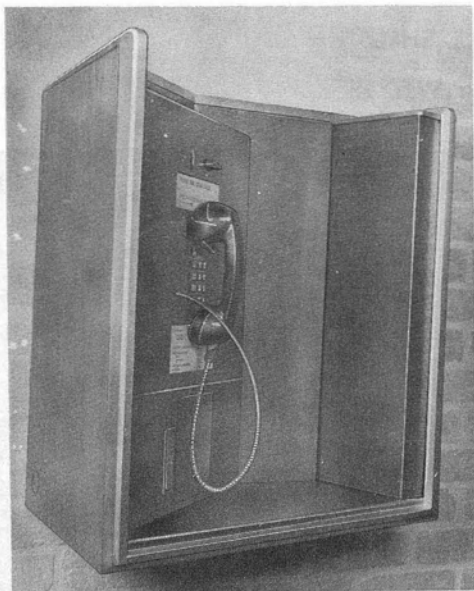

Fig. 3—KS-21571 Coin Telephone Shelf With 2-Type Set and No Lamp
* The fluorescent light fixture, electrical cord, and plastic light diffuser are optional. If the light is not required, a perforated stainless steel panel (same shape and size as the diffuser) will cover opening in shelf (Fig. 3).